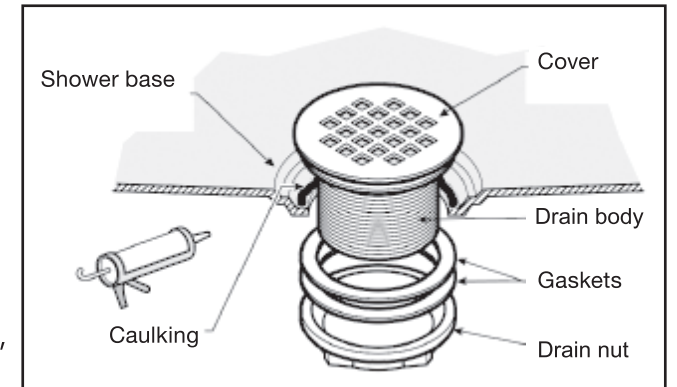

Fig. 3
- Install the shower drain according to the drain installation manual (supplied with the drain). (Fig 3)